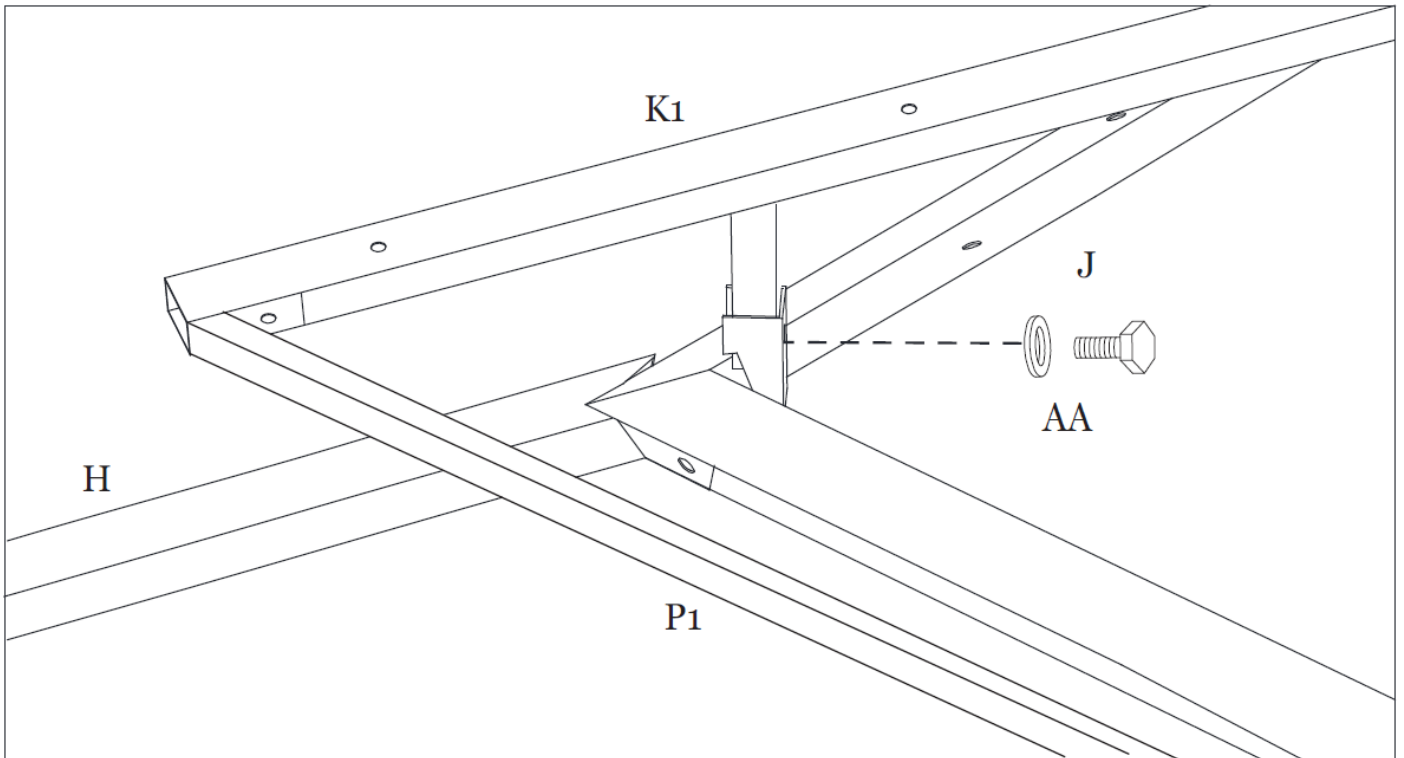

Figure 8-1
Step 8A: Secure the Roof Vent Frame to the Main Roof Center Frame by inserting the Roof Vent Corner Supports (K1) into the Main Roof Center Frame (J) and attach using Bolts (AA). See Figure 8-1.